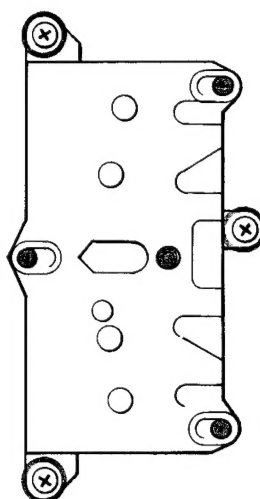

Fig. 3.9 Flywheel mounting plate
7. Remove the three screws shown in Figure 3.9. When you lift out the flywheel mounting plate make sure that the three ball bearings and the cylindrical bearing do not fall out, see Figure 3.9.